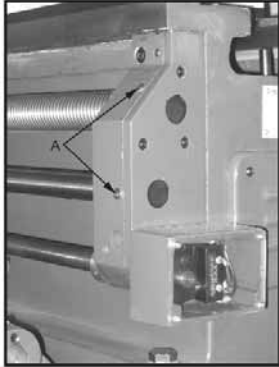

Fig. 6
- Leadscrew & Feed Rod:** Lubricate two ball oilers on the right side bracket (A, Fig. 6) with Mobil DTE® Oil Heavy Medium oil daily.